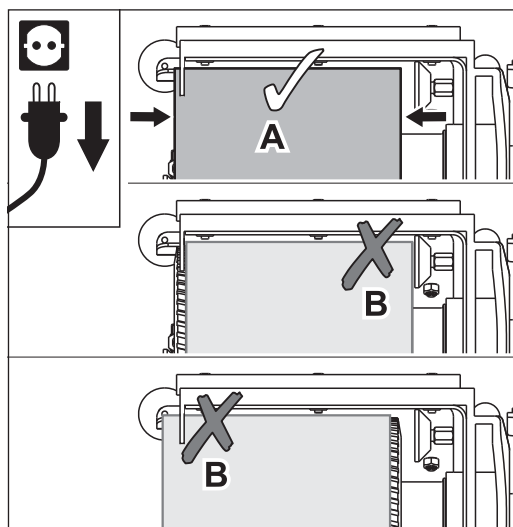

Fig. 38 Position the sanding belt so that it evenly covers the sanding drum (A). Avoid position B without fail (RISK OF FIRE)!
- 7 Position the sanding belt so that it evenly covers the sanding drum (Fig. 38, A).
Position B of the sanding belt in Fig. 38 provoke sparking during sanding! Avoid this without fail!